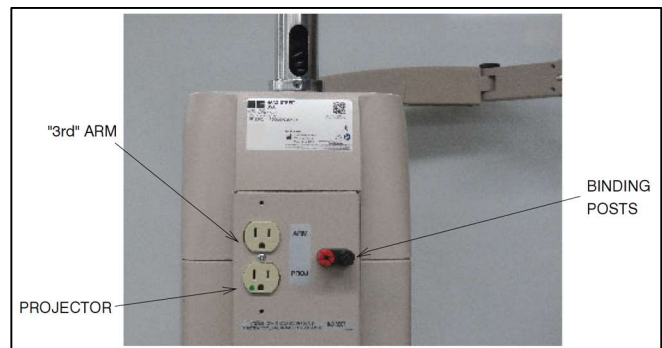

FIGURE 4
2.5.4. Plug the Third Arm into the receptacle marked "3RD ARM" located on the Console or Base Cap (See Figure 4).
If any additional Instrument is to be connected to the Binding Posts or if any auxiliary equipment is to be plugged into the outlets, make these connections at this time (See Figure 4).